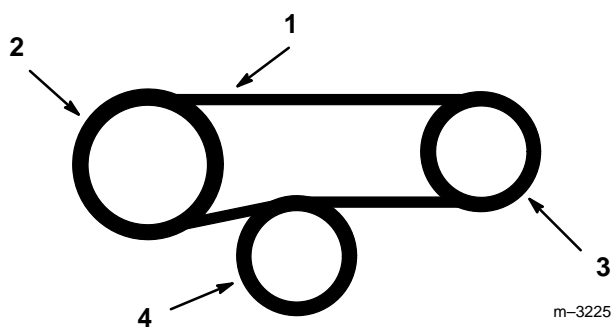

Figure 32
4. Remove belts over clutch (Fig. 32).
- Install new belts over clutch. Align clutch hub key with crankshaft keyway and notch with stop bracket. Slide clutch onto crankshaft (Fig. 32).
- Route belts around clutch and gearbox pulleys and above spring loaded idler (Fig. 32).